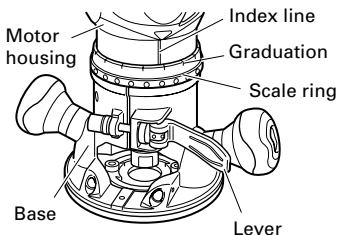

Fig. 4
- (1) Place the tool on a flat wood surface.
- (2) Open the lever and turn the motor housing until the bit just touches the flat surface. (**Fig. 4**)
- (4) While holding up the base slightly, turn the motor housing clockwise until the index line on the motor housing reaches the desired depth indicated on the scale ring. (Fig. 4)
- (5) Close the lever firmly.